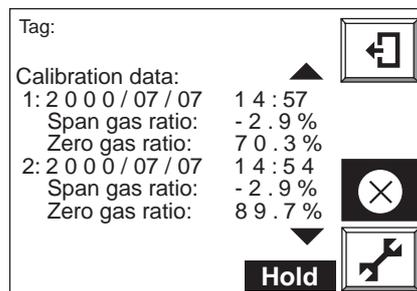

Figure 12.6 Calibration History
- (4) Confirm whether deterioration of or damage to the sensor assembly that caused the alarm has occurred abruptly during the current calibration in the following procedure:
- b. Display “Calibration time history” by pressing the ▼ key (Figure 12.6). Since the ten previous span-correction factor and zero-correction factor values can be checked in this display, changes in deterioration of the sensor can be seen.